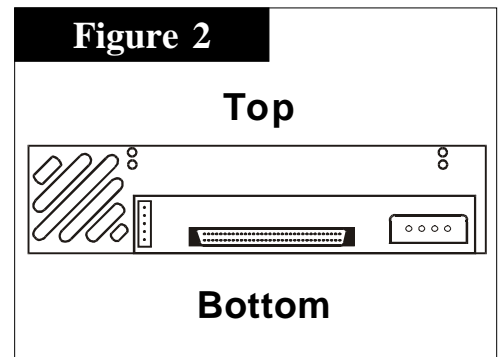

Figure 2
1. Place the Frame into the 5.25" Bay with the backplane of the Frame toward the rear of the bay. To determine which side of your frame is the top, view the frame from the back (Figure 2) if the fan is on the left side, you are holding the frame right side up.